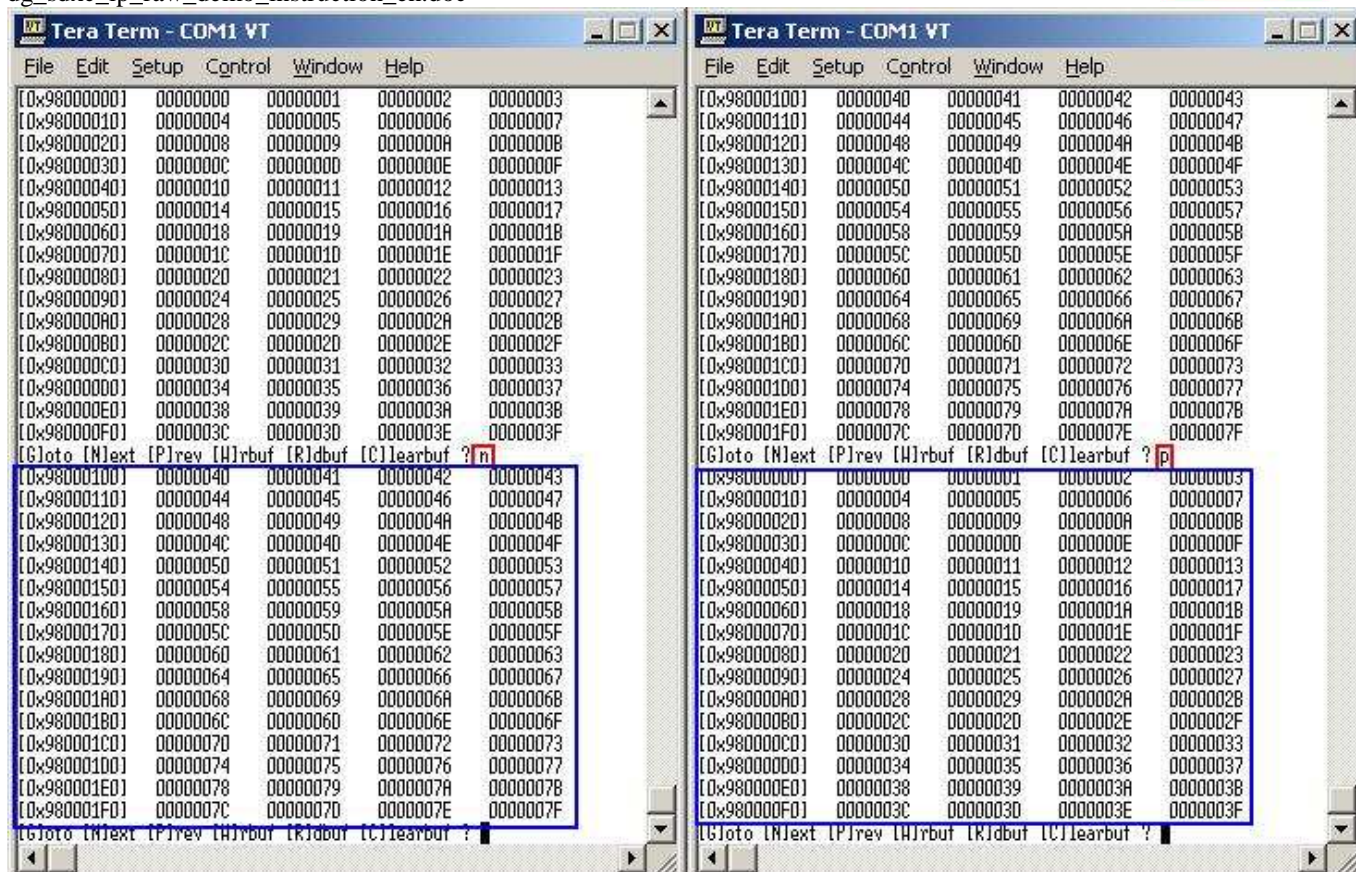

Figure 16 Read Next/Previous 256 byte data in buffer
- 'N': this submenu is used to read next 256 byte data in buffer, as shown in Figure 16.
- 'P': this submenu is used to read previous 256 byte data in buffer, as shown in Figure 16.